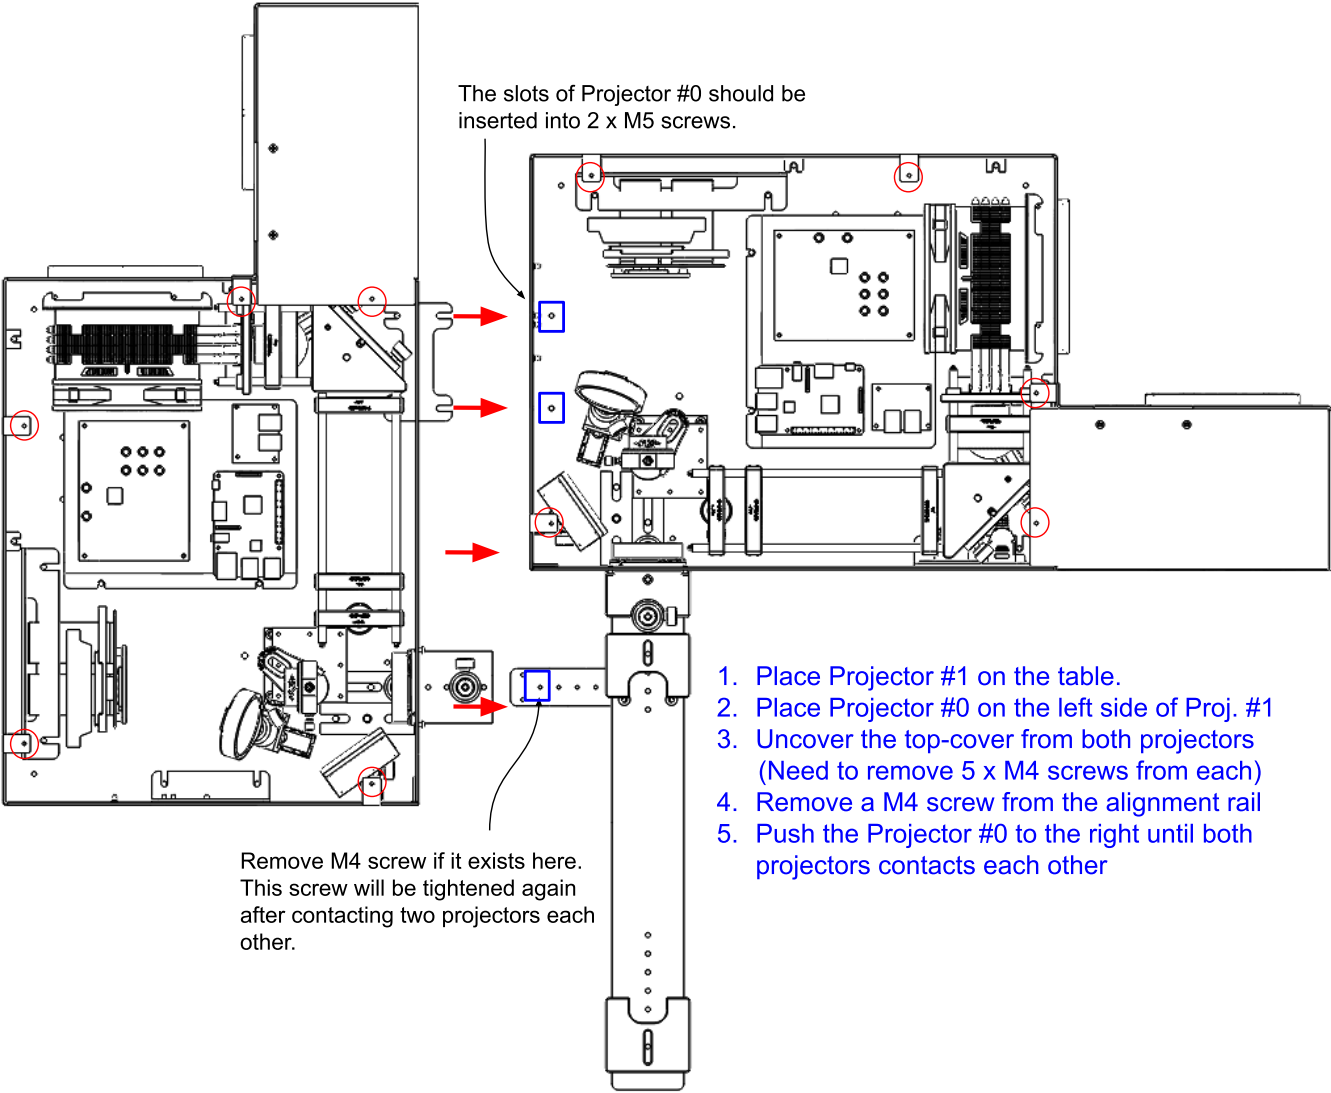

Fig. 8. Remove the top cover from both projectors
- Follow the 5 steps shown in Fig. 8